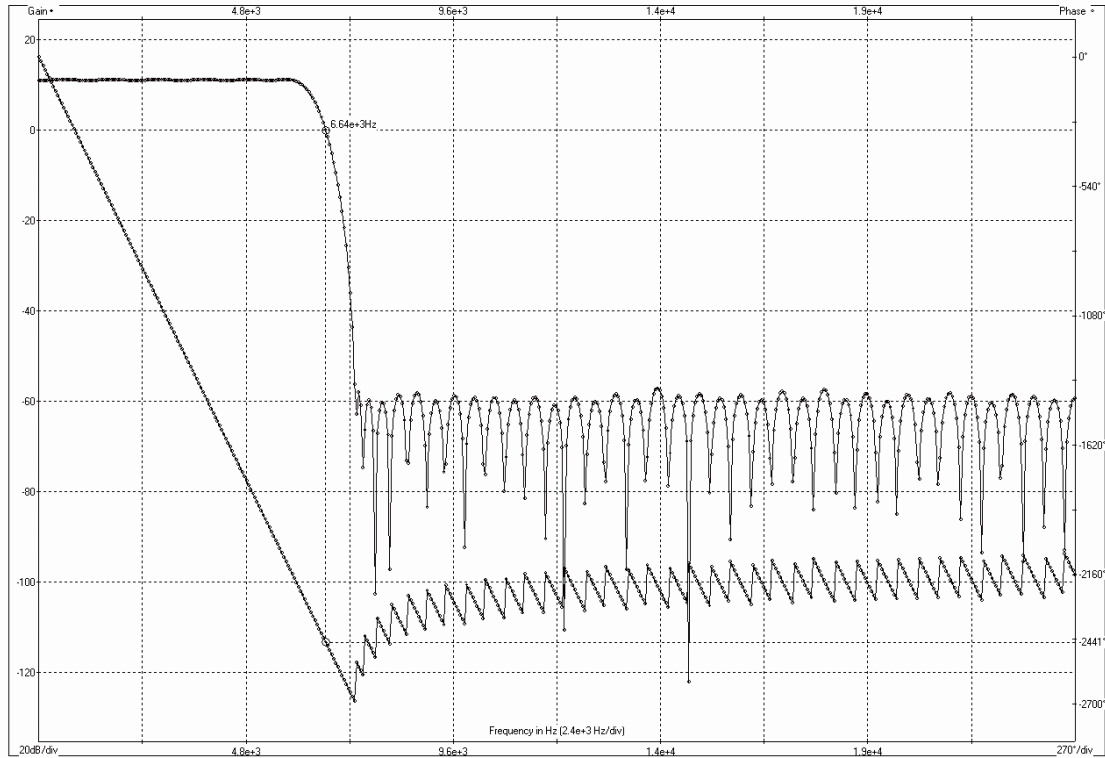

Figure 15 I/Q Filter response in 25kHz operation.
13. Adjacent channel filtering is the ability of the CMX910 filters to reject adjacent channel energy and note that it does not correspond directly to the 'Adjacent Channel Selectivity' as defined by IEC61993-2 (or IEC 62287). The filter characteristic in each of the I and Q paths for 25kHz mode operation is shown in Figure 15. Note that the pass-band has a gain of +10dB and stop band is -60dB so the typical rejection is +10 – (-60) = 70dB.